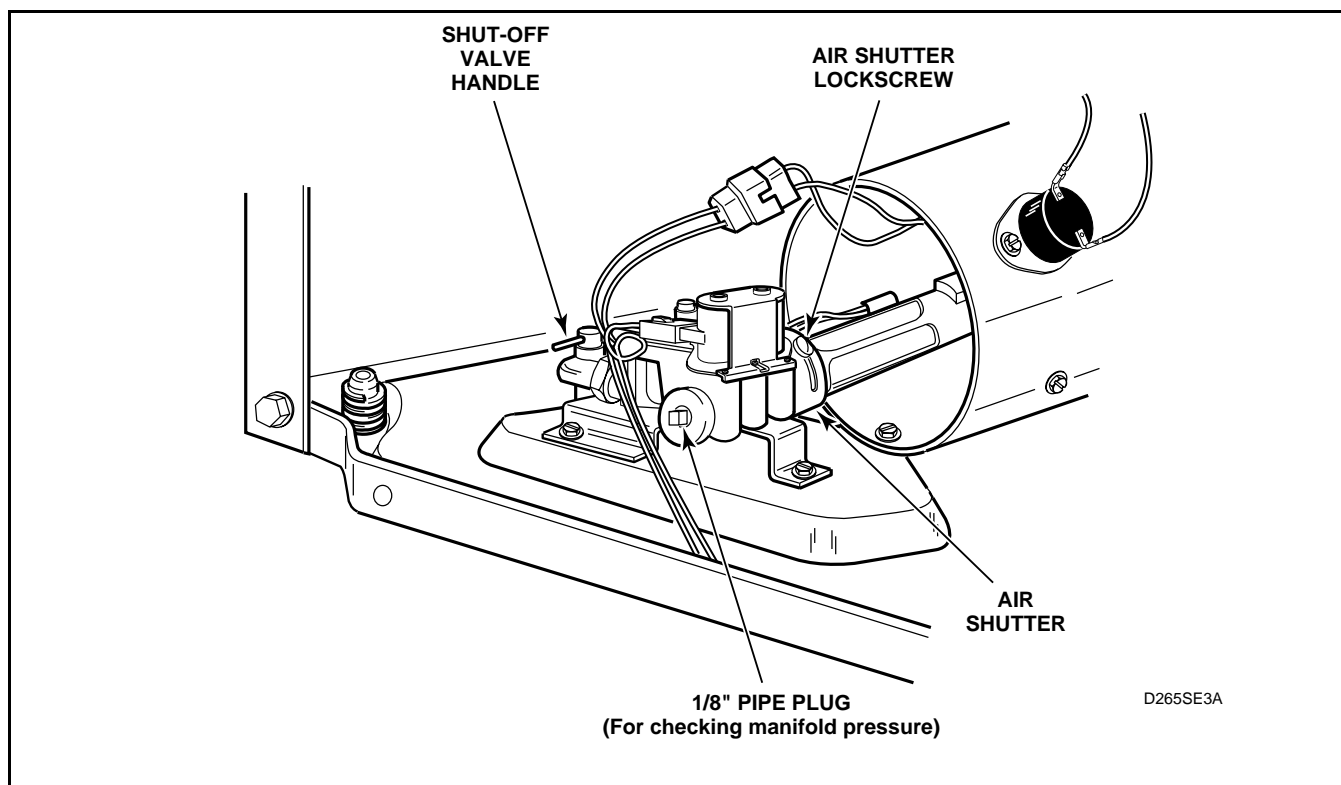

Figure 43
- e. Allow the dryer to operate for approximately five minutes, then loosen the air shutter lock screw. See *Figure 43*.
- g. After proper flame is obtained, tighten air shutter lock screw firmly. See *Figure 43*.
- Close main gas shut-off valve. See *Figure 43*.